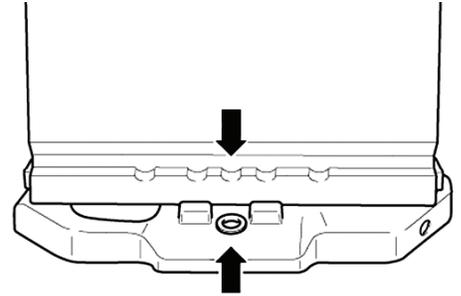

Fig. 4 Battery alignment
2. Battery is installed correctly when center opening in center of battery clamping strip and threaded hole in battery tray align (arrows), **Fig. 4**. If battery has a hose for central venting system, ensure hose does not get clamped off. If battery does not have a hose for central venting system, ensure opening on top side of cover is not plugged.